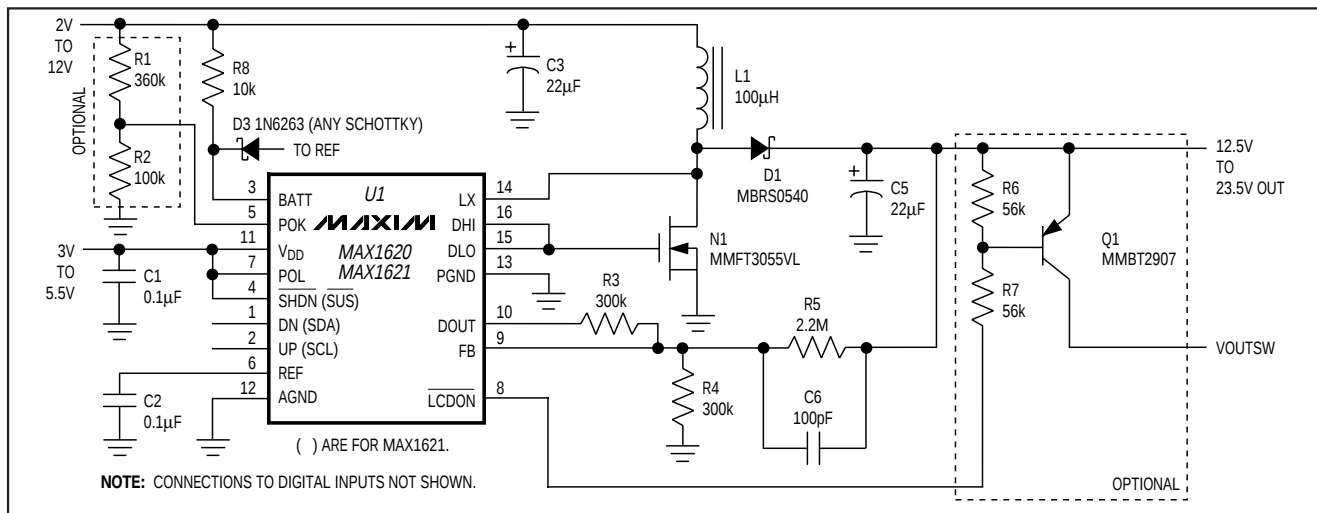

Figure 4. Typical Operating Circuit—Positive Output
To select a positive output voltage, tie the polarity pin (POL) to V_{DD} and use the typical boost topology shown in Figure 4. FB regulation voltage is 1.5V. For optimum stability, V_{OUT} should be greater than 1.1 (V_{BATT}).
To prevent uncontrolled boosting when the output is disconnected, the feedback resistors must sense the boosted voltage rather than the output of the $\overline{LCDON}$ switch (Figure 4).
Separate voltage sources can supply the inductor (L1) and the IC (V_{DD}). This allows operation from low-voltage batteries as well as high-voltage sources because chip bias (150 μ A) is provided by a logic supply (3V to 5.5V) while output power is sourced directly from the battery to L1. Conversely, L1 and V_{DD} can also be supplied from one supply if it remains with V_{DD} 's operating limits (3V to 5.5V). If L1 and V_{DD} are fed from the same voltage, D3 and R8 (Figures 4, 5, 6, and 10) can be omitted, and BATT may be connected directly to V_{DD} .
The minimum output voltage is set with a resistor-divider (R4-R5, Figure 4) from V_{OUT} to AGND. The FB threshold voltage is 1.5V. Choose R4 to be 300k Ω so that the current in the divider is about 5 μA . Determine R5 as follows:
The DAC is adjustable from 0V to 1.5V in 32 steps, and 1LSB = 1.5V / 31. DAC adjustment of V_{OUT} is provided by adding R3 to the divider circuit (Figure 4). Be sure that $V_{OUT,MAX}$ does not exceed the LCD panel rating.
- 3) As an input sensing output cutoff for positive outputs. Connect POK to a voltage divider to sense the input voltage. The output is switched on only when the input reaches the set level (Figure 4).
To control the open-drain output $\overline{LCDON}$ by sensing the input voltage, connect a resistor-divider ($R1$ - $R2$, Figure 4) from V_{BATT} to POK. Choose $R2 = 100k$. For example, if the minimum battery voltage is 5.3V, determine R1 as follows: